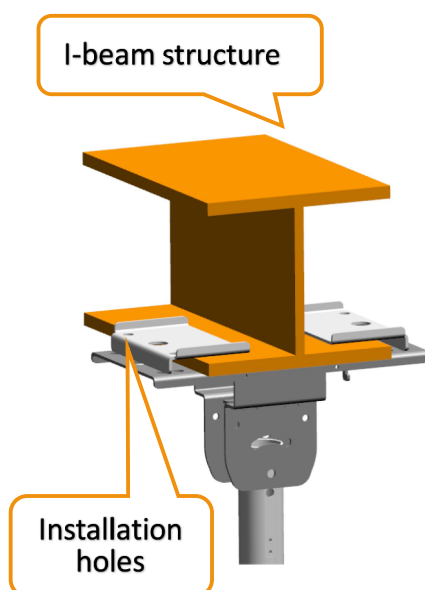

Figure. 1.2
① using two M10*100 hexagonal bolts and nuts each side to fix the upper mount (see Figure 1.2 and 1.3)